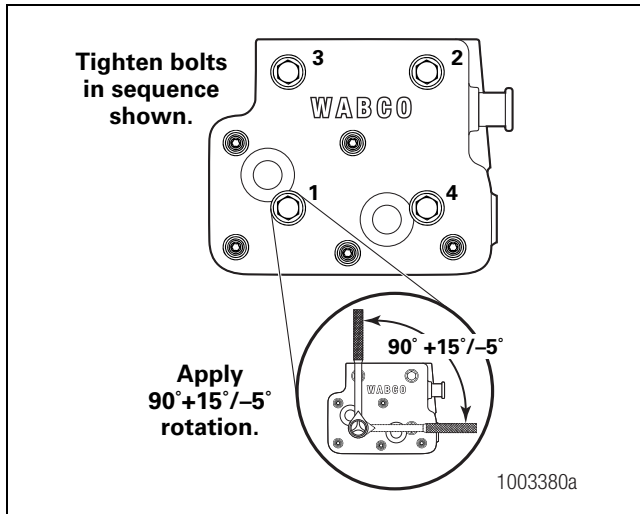

Figure 3.9
5. Install the four hex-head mounting bolts that hold the cylinder head in place. Tighten the mounting bolts in sequence (1 - 2 - 3 - 4) to 18.5 to /-2.5 lb-ft (25 to /-5 N•m). Then, apply $90^\circ +15^\circ/-5^\circ$ rotation to the four cylinder head bolts. Use an angular gauge to check the rotation. Figure 3.9.